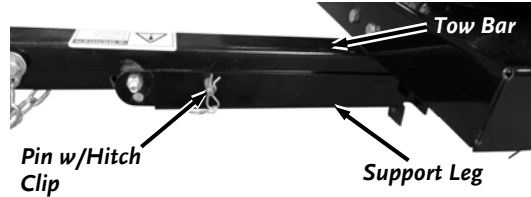

Figure 30
3. Rotate the Support Leg to the up (transport) position, align the holes in the Tow Bar and Leg, reinstall the Pin and secure with the Hitch Clip (**Figure 30**).